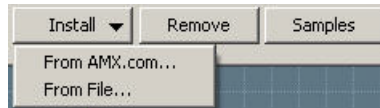

FIG. 179 Install sub-menu (User Interface Template Manager dialog)
2. Click the **Install** button to open the Install sub-menu, which provides two ways to install templates - *From AMX.com*, or *From File* (FIG. 179):